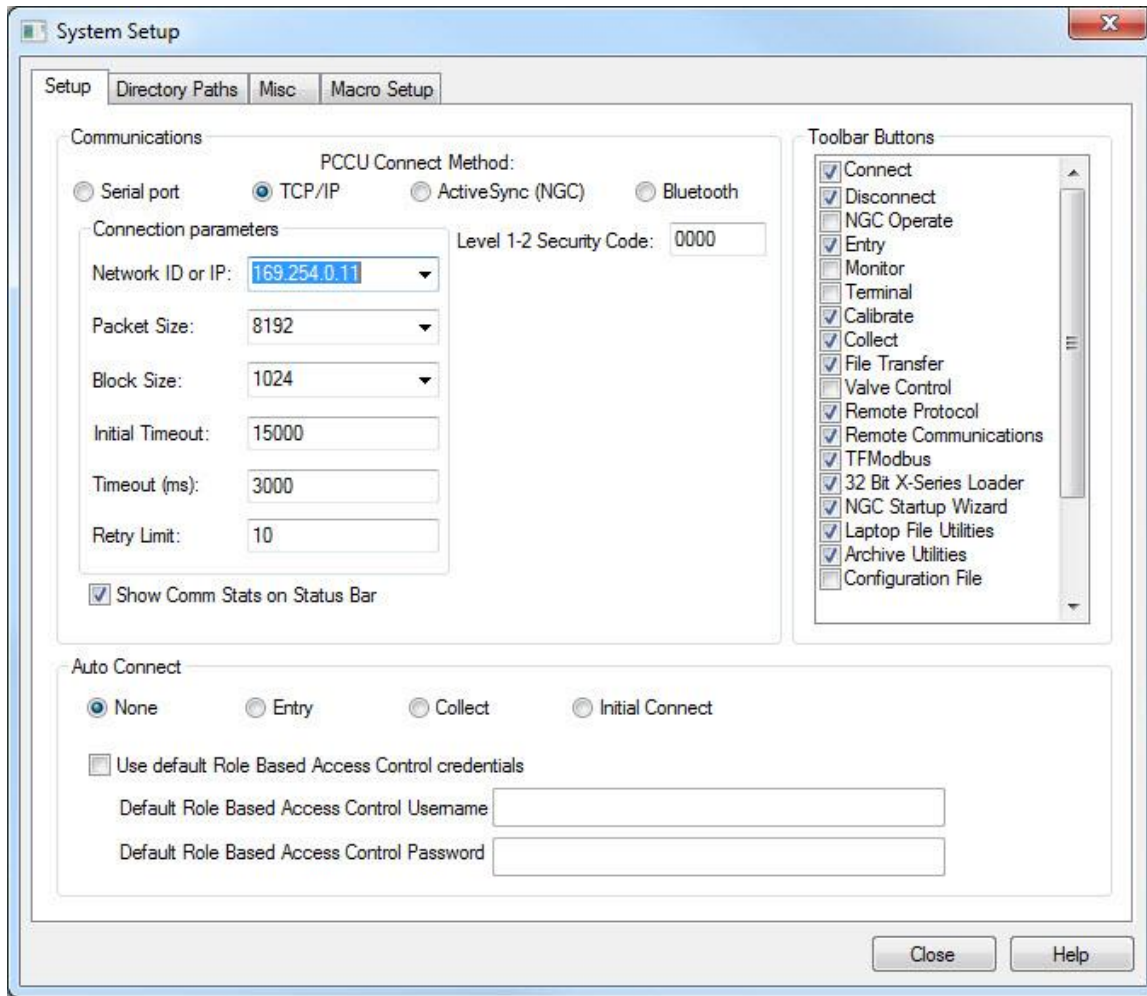

Figure 66 Setup TCP/IP communication over Ethernet
3. Click **Setup** from the toolbar. The **Setup** screen for communication displays (Figure 66).